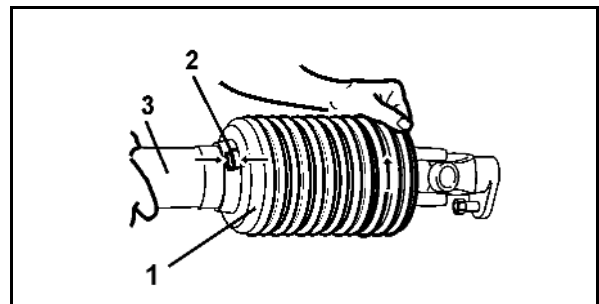

Fig. 58
6. Remove the grease nipple (Fig. 58/1) and attach the PTO shaft (Fig. 58/2).
7. Secure the connection fork (Fig. 58/3) into place using a shear pin (Fig. 58/4).
8. Screw in the grease nipple (Fig. 58/1).